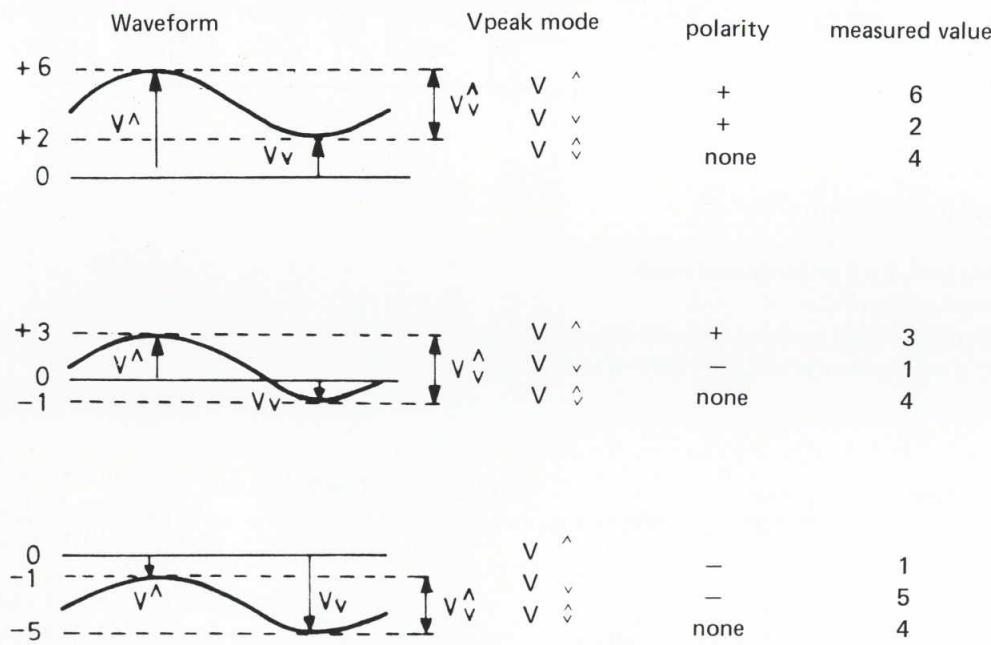

Fig. 17. Definition of  $V^{\wedge}$ ,  $V_{\vee}$  and  $V^{\wedge\vee}$
**Definition of  $V^{\wedge}$ ,  $V_{\vee}$  and  $V^{\wedge\vee}$  (fig. 17)**